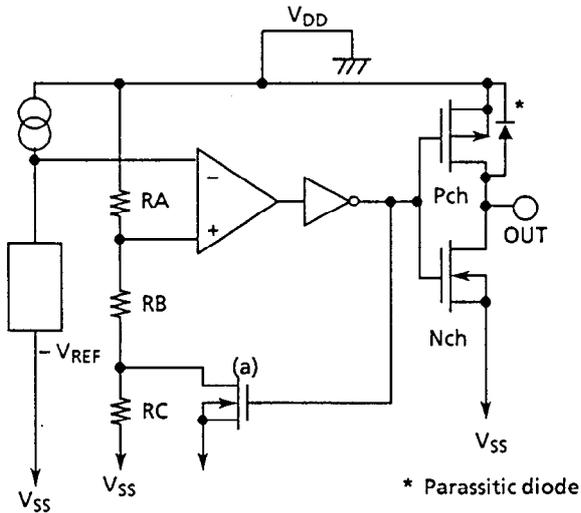
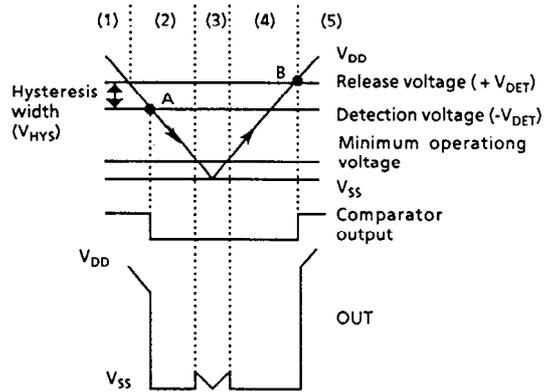

Figure 16
Figure 17
Hysteresis width is the voltage difference between a device's detection voltage and its release voltage (see Figure 17. $V_{HYS} = B - A$). By giving a device hysteresis, erroneous toggling of the output due to noise at the input is avoided.
- (1) When power supply voltage V_{DD} is greater than the release voltage $+V_{DET}$, the Nch transistor is OFF and the Pch transistor ON, causing V_{DD} (high) to appear at the output. With the Nch transistor of Figure 16 (a) off, the comparator input voltage is $(RB + RC)/(RA + RB + RC) \times V_{DD}$.
- (2) When power supply voltage V_{DD} goes below $+V_{DET}$, the output continues to maintain the power supply voltage level, as long as V_{DD} remains above the detection voltage $-V_{DET}$. When V_{DD} does fall below $-V_{DET}$ (A in Figure 17), the Nch transistor goes ON, the Pch transistor goes OFF, and V_{SS} appears at the output. With the Nch transistor of Figure 16 (a) ON, the comparator input voltage is $RB/(RA + RB) \times V_{DD}$.
- (3) When V_{DD} falls below the minimum operating voltage, the output becomes undefined. However, output will revert to V_{DD} if a pull-up has been employed.
- (4) V_{SS} will again be output when V_{DD} rises above the minimum operating voltage. V_{SS} will continue to be output even when V_{DD} surpasses $-V_{DET}$, as long as it does not exceed the release voltage $+V_{DET}$.
- (5) When V_{DD} rises above $+V_{DET}$ (B in Figure 17), the Nch transistor goes OFF, the Pch transistor goes ON, and V_{DD} appears at the output.